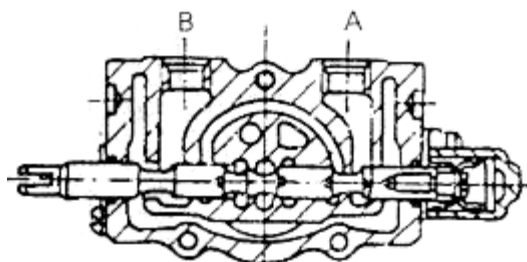

Fig 6-4
(3) Pull-out Spool Valve (Fig 6-4)